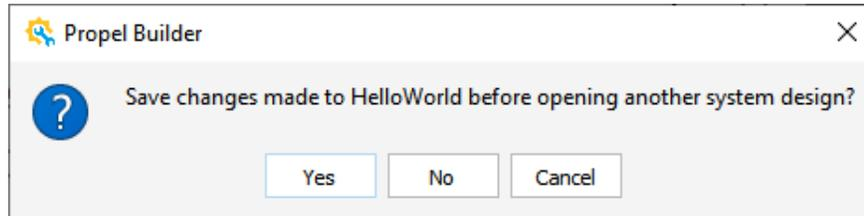

Figure 2.88. Propel Builder Dialog Box
- Click **Switch Verification and Soc Design** icon  from Propel Builder GUI Toolbar. Propel Builder dialog box opens (Figure 2.88), if a project is not saved.